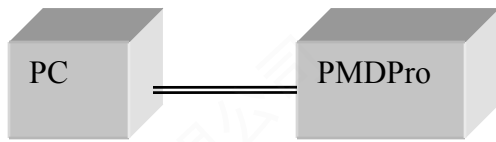

Figure 24 Direct connection: PMDPro to PC
- a) Static IP: the administrator assigns the instrument a fixed IP address. In this mode, the instrument can be directly connected to the control PC, as shown in Figure 24. For a direct connection, a cross-linked network cable must be used. Note: Static IP can also be used with the instrument connected to a router. In this case, a straight-linked network cable would be used.